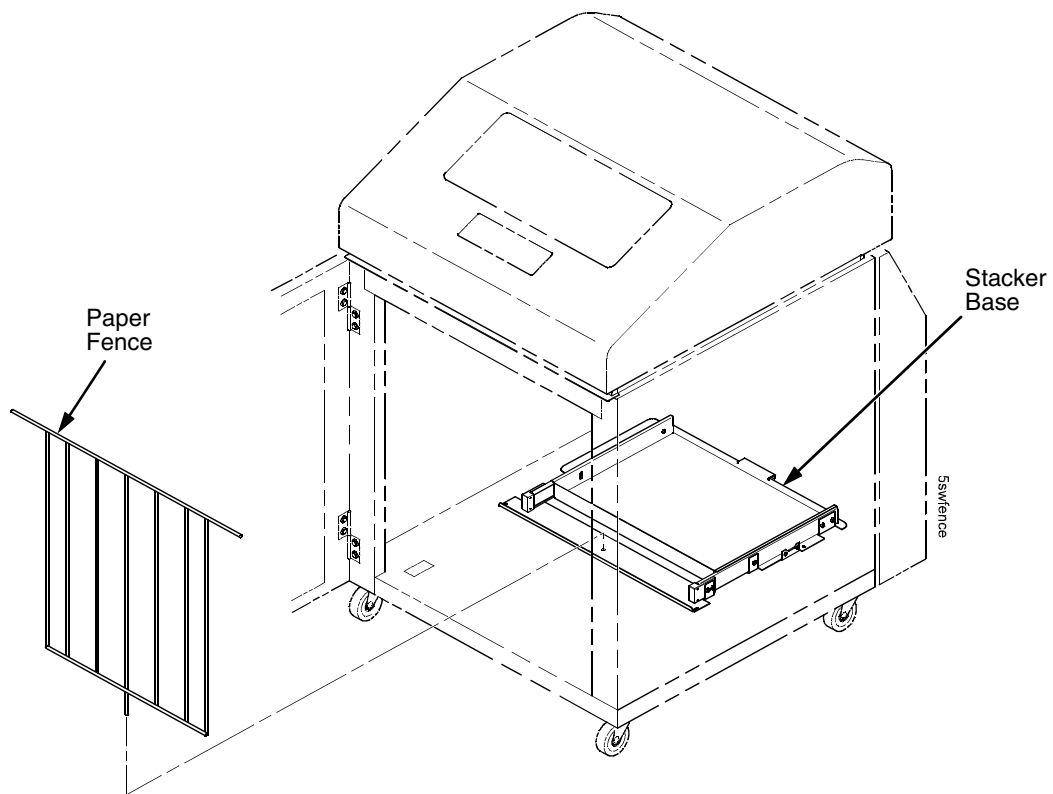

Figure 91. Paper Fence
33. Install the paper fence. (Figure 91.)